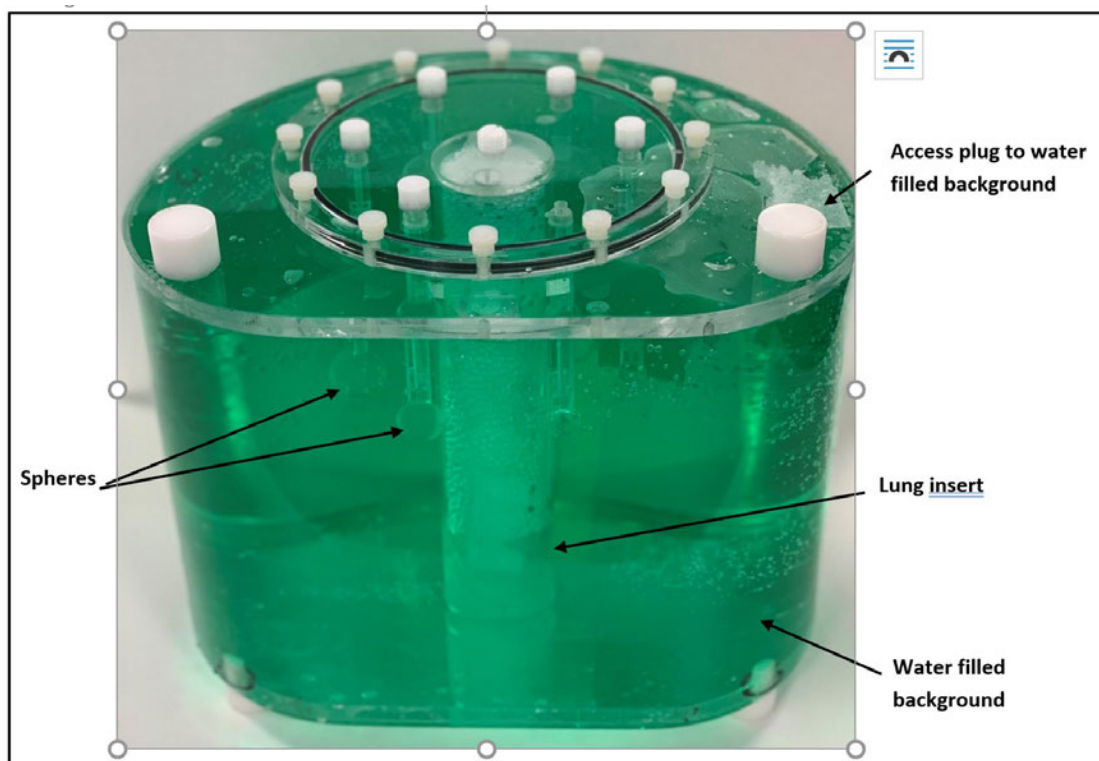
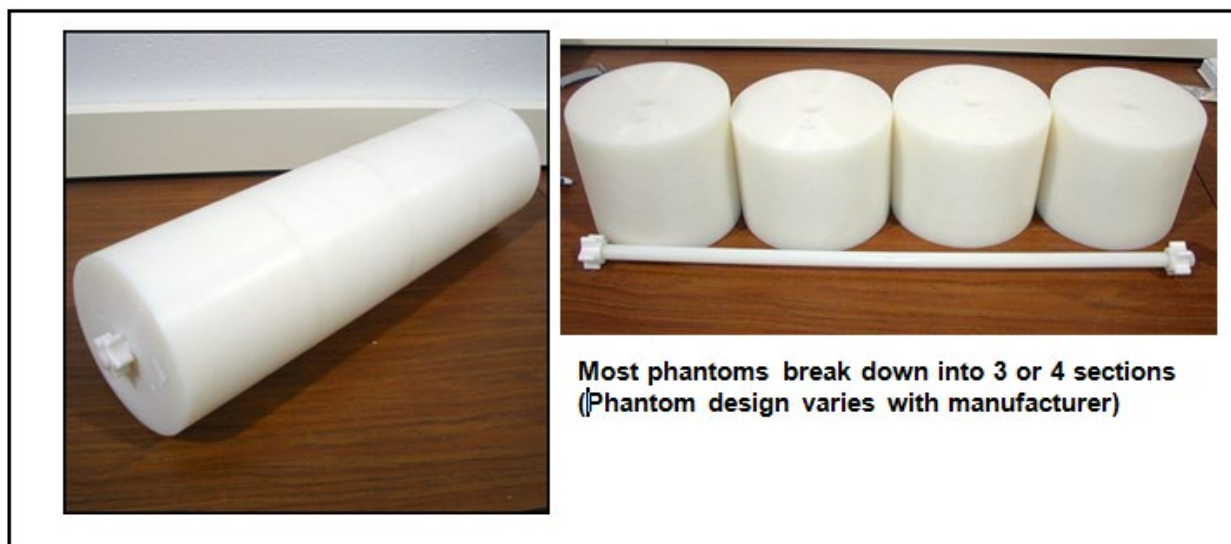

Figure 4.1: Example of an Image Quality Phantom – change for NEMA 2018.
Figure 4.2: Example of a NEMA Scatter Phantom.
The image quality test simulates a PET-CT whole body clinical use case. Refer to Figure 4.1. The test phantom presents different sized hot spheres in a volume of non- uniform attenuation. Additional activity is placed outside the scan FOV, to represent scatter radiation, refer to Figure 4.2. Image quality is reported in terms of image contrast and signal-noise ratios for the hot spheres.
1. Refer to Figure 4.1 and Table 3. The typical background volume equals the volume of the phantom minus the volumes of the lung insert and sphere assembly. A typical background volume is 9792 cc. Total volume of all filled spheres is approximately 60 cc.
3. Refer to Figure 4.1. Fill the Image Quality phantom lung insert with lung simulating material with an average density of 0.3 g/cc.